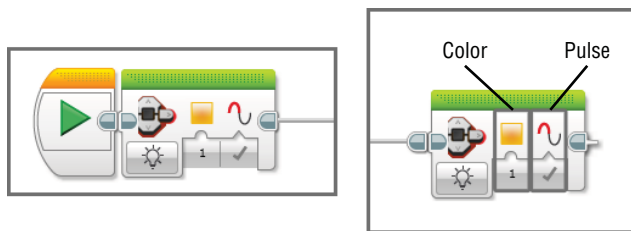

Figure 5-42: The On mode and its inputs
The first step to control the light is to choose the On mode. With this mode, you can pick the color and its outcome action. As you can see in Figure 5-42, it comes with two inputs, Color and Pulse. In the Color input, you can use numbers that represent green (0), orange (1), or red (2). The Pulse input controls how to present the light. The True value will make the light pulse, and the False value makes the light stay on.